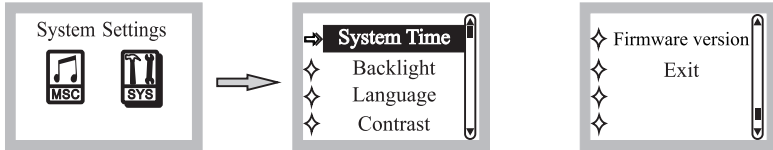

Fig. 18
- (2) System Settings Mode: Press PRV/TEN ◀◀ or the NEXT/TEN ▶▶ to change functions, press PLAY/PAUSE ⏸ to confirm and enter system settings, Fig. 18.